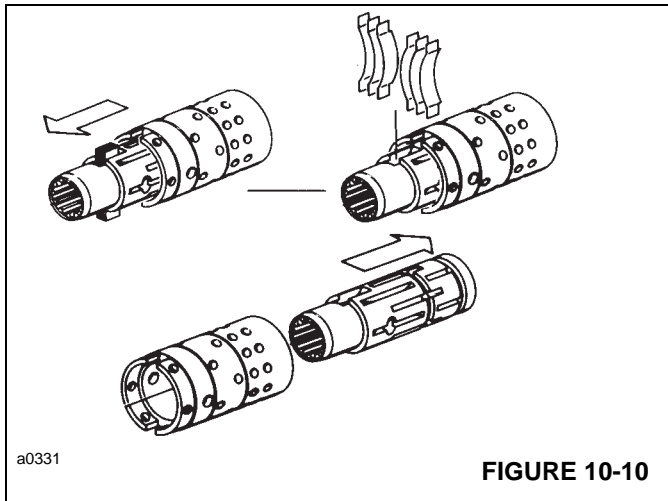

FIGURE 10-10
12. Push spool (12) partially from control end of sleeve (9). Remove six centering springs (10) from the spool carefully by hand. See Figure 10-10
13. Push spool (12) back through and out of sleeve (9). Rotate spool slowly when removing from the sleeve. See Figure 10-10.